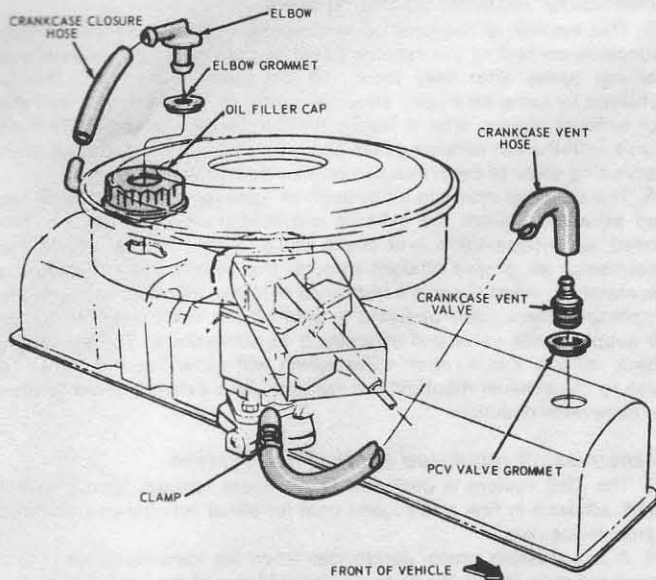

Fig. 3.63 Positive crankcase ventilation (PCV) system – typical (Sec. 29)
- 5 The PCV system operates by drawing in air and mixing it with the vapors which have escaped past the piston rings (blow-by vapors). This mixture is then drawn into the combustion chamber through an oil separator and PCV valve (Fig. 3.63).